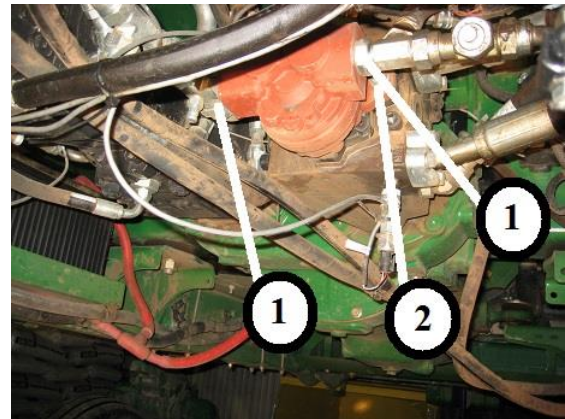

Figure 75. Original Hydraulic Fittings
Remove hydraulic fittings from the pump and remove auxiliary hydraulic pump from the main hydrostatic pump. Two (2) M12x35 bolts are removed. See Figures 75 through 77 for reference.